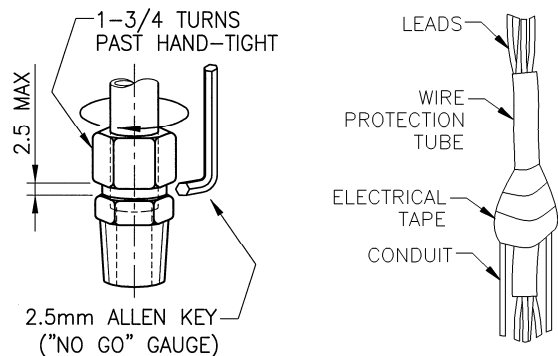

Figure 7
- Tighten nut on 1" NPT bored through compression fitting as shown in Figure 7
- Remove tape from conduit, refit compression tube fitting to conduit. Tighten nut on fitting as shown in Figure 7